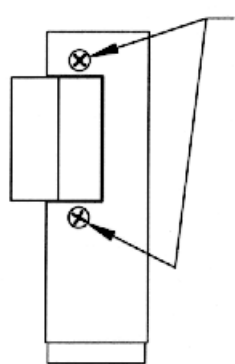

Fig. 2
- 4) Notice that there are two screws (Fig. 2) on the front of the Electric Door Strike (#33), one above and one below the latch. Remove these using a Philips screwdriver. The cover of the latch will fall away.
- 1) Slightly dampen a cotton swab with rubbing alcohol, insert the cotton swab into the location (Figure 2) and clean any dirt from the contacts that may have accumulated.